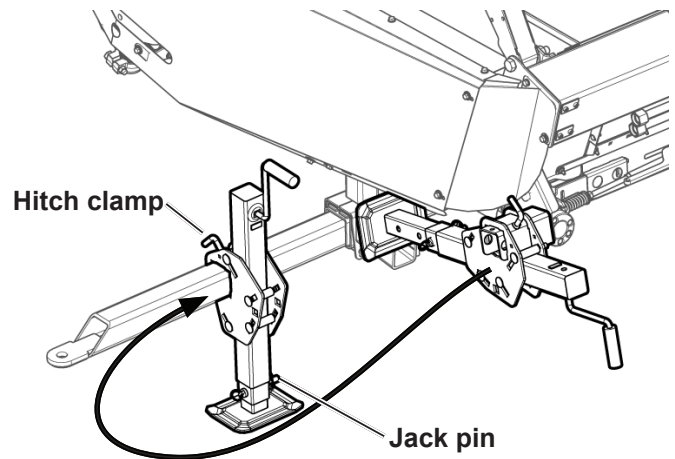

Fig. 73
8. Install the jack onto the hitch tube, and tighten the hitch clamp to secure it in place. (“Fig. 73”)